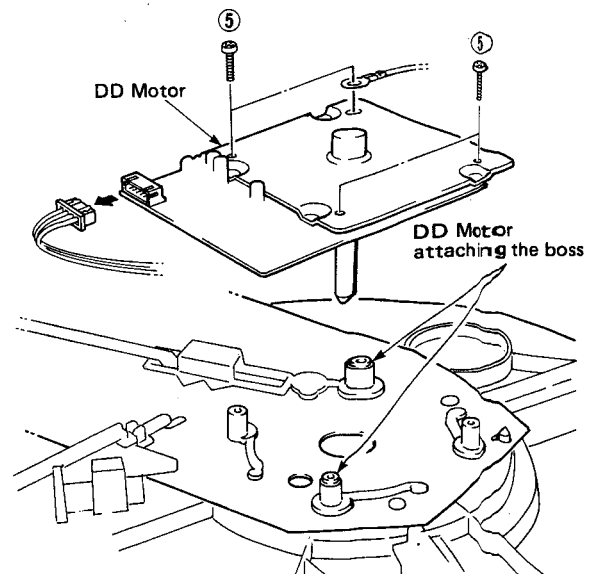

Fig. 4
- c. Remove 4 screws (⑤) in Fig. 4 and then remove the DD Motor.
*When attaching the DD Motor, you should confirm that the DD Motor is not attached above the position of boss. (Refer to Fig. 4)